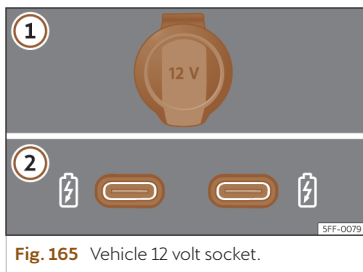

Fig. 165 Vehicle 12 volt socket.
>>> Fig. 165
Depending on the equipment and the country, the vehicle may also have USB connections **exclusively for charging or as a power socket** >>> Fig. 165 ②.